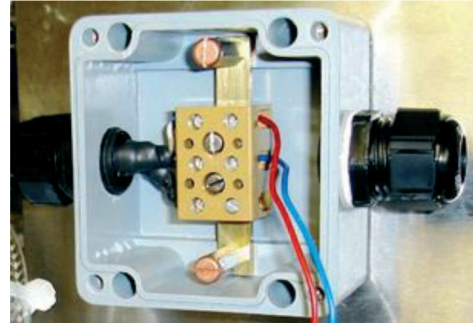

Fig. 3 JB Wiring
- DCS powered loop -ve to terminal 2 (**Fig.3**)